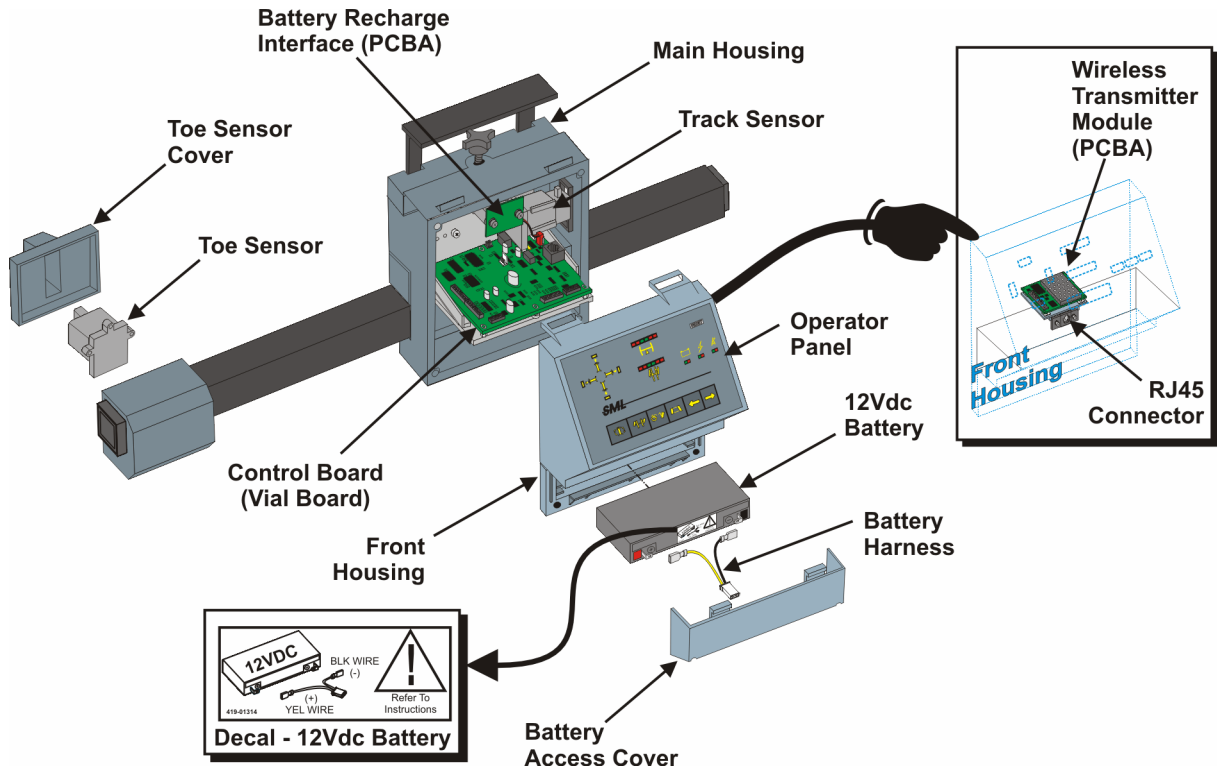

Figure 2-5. Wheel Unit – Typical Components.
- 2.3.1.1 A typical wheel unit includes an operator panel, control board (PCBA), one or two sensor unit(s), a battery charge interface module, a power transistor, a wireless transmitter module, a 12 Vdc battery, a built in speaker, mounting hardware and wiring/cabbling. Refer To Figure 2-5.